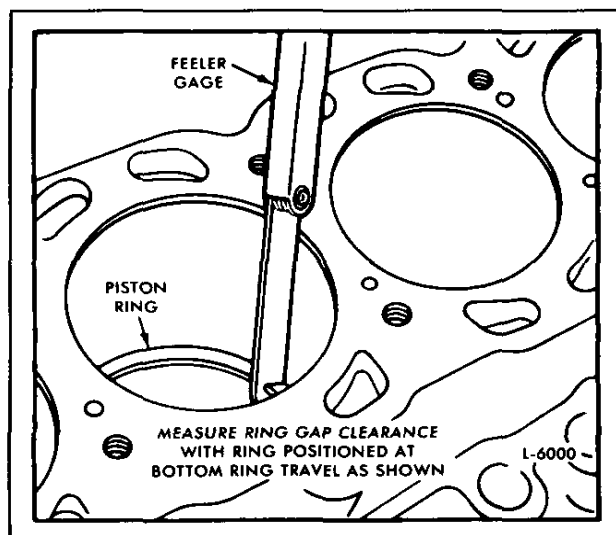

Fig. 4 - Measuring Piston Ring Gap
1. Measure each ring and rail gap with the ring or rail positioned squarely and at the bottom of the ring travel area of the cylinder bore (Fig. 4).